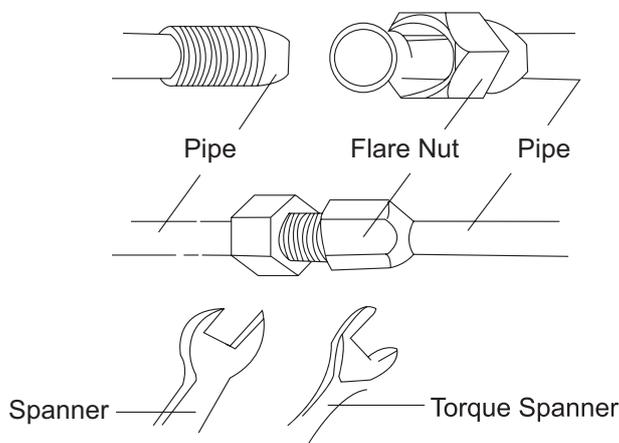

Fig.18
- (1). Let the flare end of the copper pipe point at the screw and then tighten the screw by hand.
- (2). Tighten the screw with a torque wrench until it is tightened sufficiently (as shown in Fig.18).